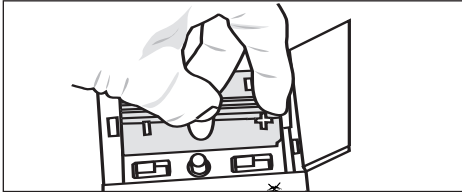

Figure 12
1. Open the top amplifier door and remove battery holder from the battery compartment by simultaneously depressing the latch on the right side of the battery holder while lifting it out (Figure 12).